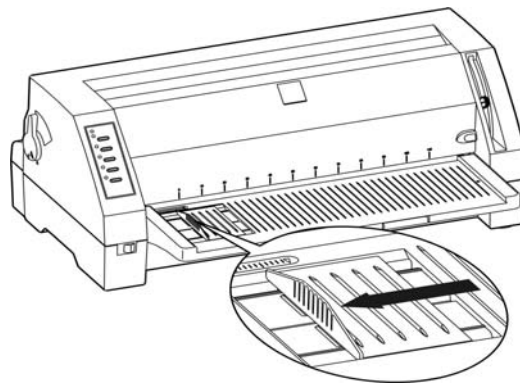

Figure 3-3 Adjusting the paper guide
4. Position the left cut sheet guide by referring to the marking on the window cover. The positions for A4 and letter size paper are indicated on the left side of the window cover as shown in Figure 3-3.